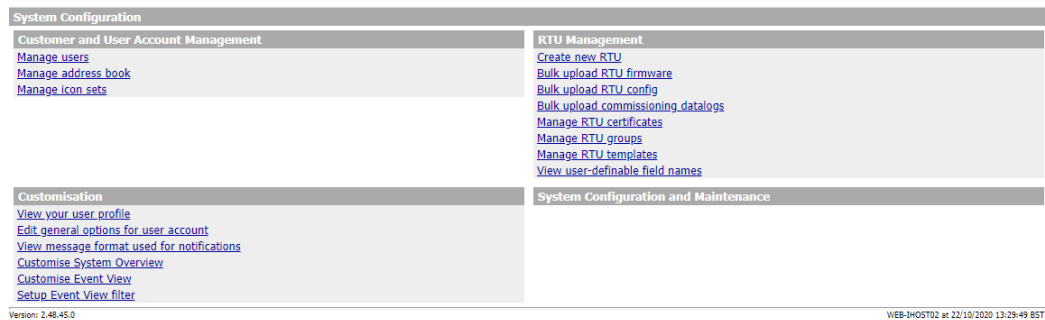

Figure 12.5 System Configuration menu
Setting up the system can be achieved by clicking on the “Configuration” tab in the Quick Access Menu ⑨, which brings up the System Configuration menu (Figure 12.5).